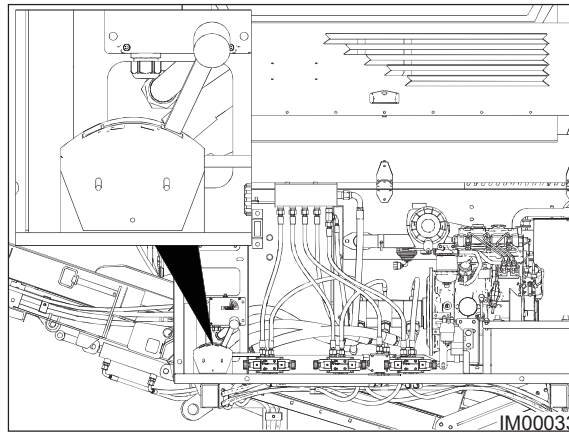

Fig: 9.2 - Throttle Lever
4. Using the Throttle (Fig: 9.2), reduce the engine speed to idle (950 RPM).